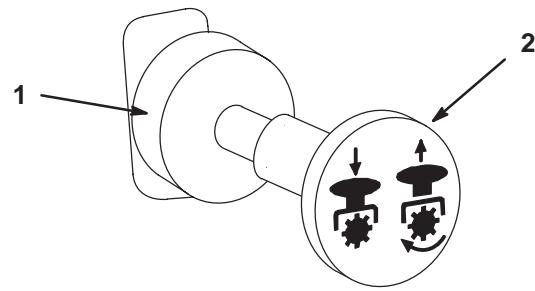

Figure 11
3. Move the PTO (power take off) to disengage (Fig. 11).
1. Push the PTO (power take off) to off (Fig. 11).
2. Pull the power take off (PTO) to on (Fig. 11).
2. Push the power take off (PTO) to off (Fig. 11).